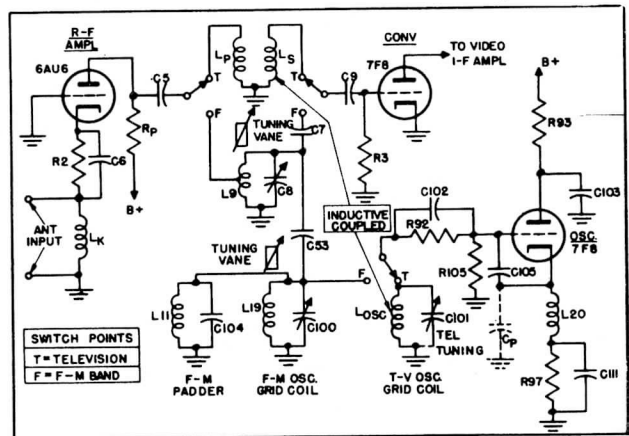

Fig. 2. Television and F-M R-F Amplifier, Converter and Oscillator
1. R-F AMPLIFIER, CONVERTER AND OSCILLATOR (SEE FIGURES 2 AND 3).—The television and FM r-f amplifier makes use of a Type 6AU6 tube connected as a triode grounded-grid amplifier. The antenna is connected into the cathode circuit so as to provide a substantially constant input impedance of 300 ohms to the antenna at all frequencies. With a 300-ohm antenna and